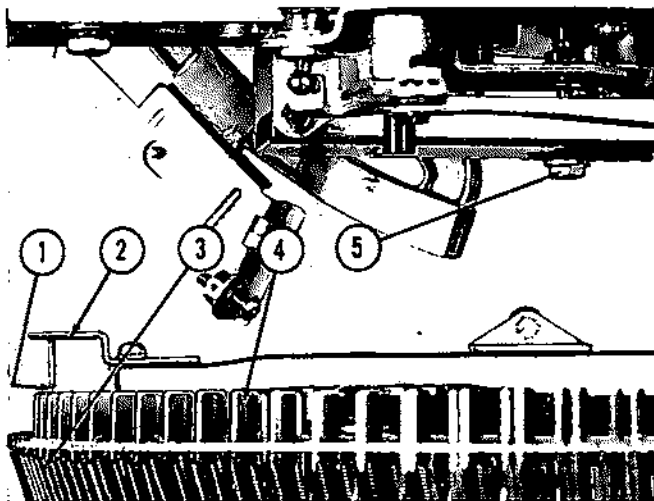
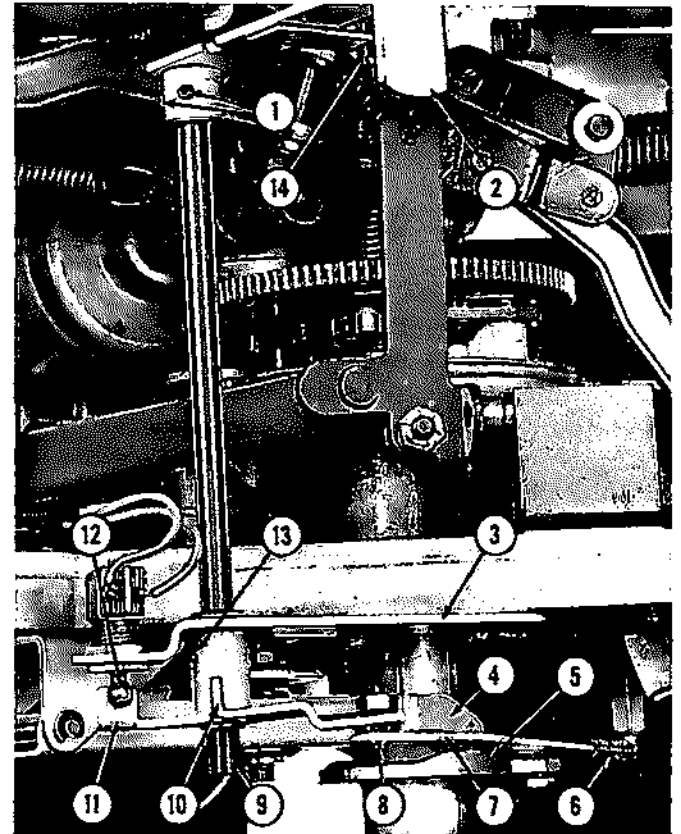

FIG. 31. SELECTOR CRANK CLEARANCE ADJUSTMENT
FIG. 32. RECORD LOADING LEVER ADJUSTMENT
The tips of the Selector Crank Arms should clear the selector pins, when in their normal latched position by 1/16" to 1/8" as shown in Figure 31, Item 1. Set the Record Loading Lever (Fig. 32, Item 2) in "Load" position and release 8 selector pins spaced evenly around the assembly. The tips of the Selector Crank Arms should clear the released pins. Should adjustment be required turning the adjusting screw (Fig. 31, Item 5) will raise or lower the arms. The model 2610 has this adjusting screw in the same location but it is adjusted from the upper end.
(1) The Record Loading Lever (Fig. 32, Item 2) mounted at the front center of the chassis mounting plate is used to disconnect the changer motor circuit and raise the selector crank arms to a position where they will clear any released selector pin, thereby permitting servicing of the phonograph without cancelling selections which may have been made. Should it be necessary to service the phonograph while a record is in play position, the Record Loading Lever should be moved to the "Load" position, the record playing allowed to trip and return to the record carrier before attempting to turn the record carrier.
(2) The Release Lever (Item 2), held to the